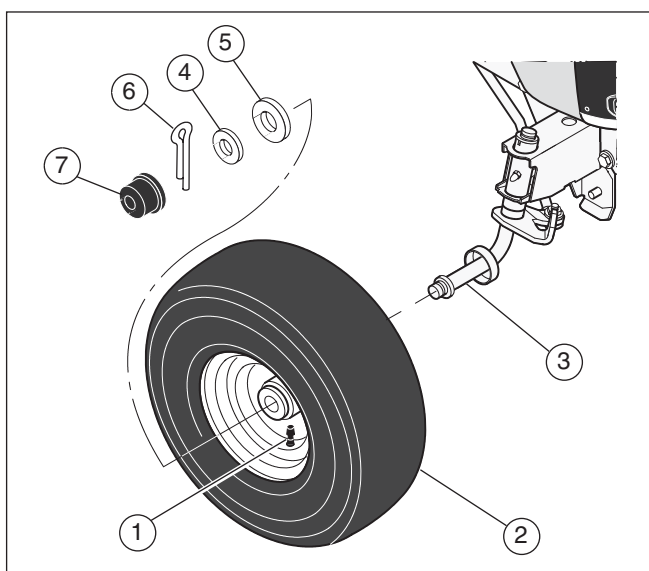

Figure 36
1. Make sure the valve stem (1) is to the outside (see **Figure 36**).
2. Slide the front wheel (2) onto the spindle (3).
3. Fasten the front wheel (2) with washers (4 and 5) and cotter pin (6). Bend the ends of the cotter pin apart to keep the front wheel on the spindle.
4. If your model has hub caps (7), install the hub caps. Make sure the washers hold the hub caps in place.